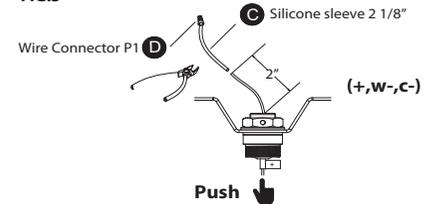

Fig.4
COMPLETING THE INSTALLATION(Fig. 4)
12. Install the central crystal with hands(FIG 4.) ,and the bottom crystal by using the bottom screw(B).